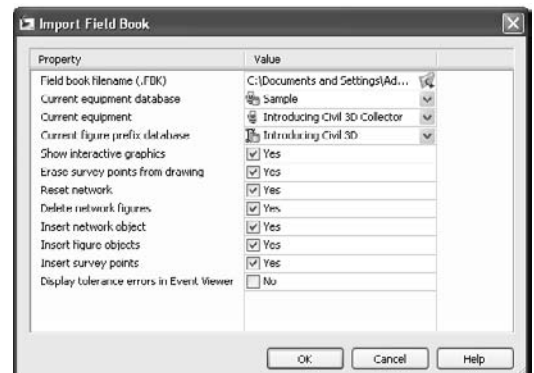

Figure 4.14
5. Confirm that all of the Yes boxes are checked except Display Tolerance, as shown in Figure 4.14. Click OK.